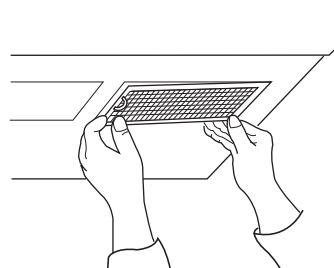

Figure 30
- Grasp filter screen with one hand holding the ring and the other hand holding the opposite end. Insert the end of the filter screen without ring into the opening and slide towards the side of the microwave oven. Insert ring end of filter screen into the opening and slide entire screen towards the other side of the microwave until screen is securely in position. Repeat for other filter screen. See Figure 30.